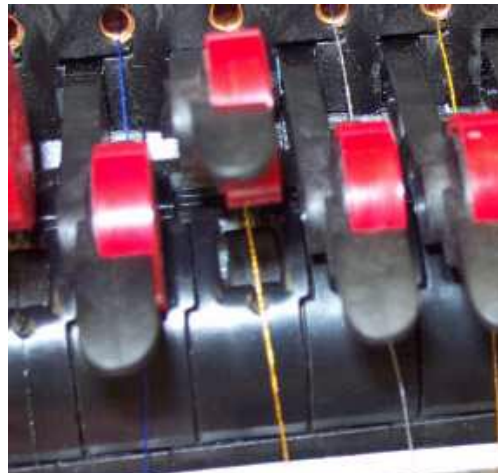

Figure 9-8
6. Insert the covers in place by moving the thread out of the way and inserting the top end of the cover into the slot at the top of the thread feeder assembly and then pushing it into the assembly until it snaps back into place as shown in. Make sure the thread is centered (critical) over the thread feeder front cover as shown in *Figure 9-8*.